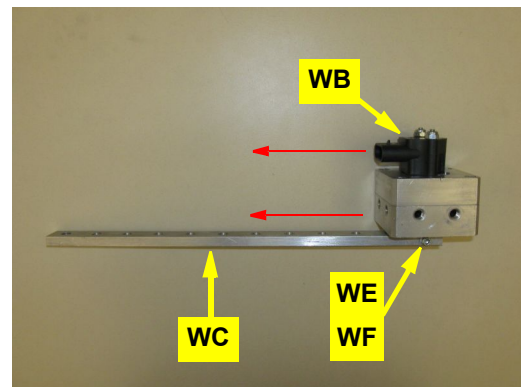

Figure 1c: Attached WAS arm
- c. Using hardware **WE** (nut) and **WF** (screw), attach the cut WAS arm **WC** to the WAS assembly. Mount the arm in the same direction as the WAS wire connector **WB** (Figure 1c).